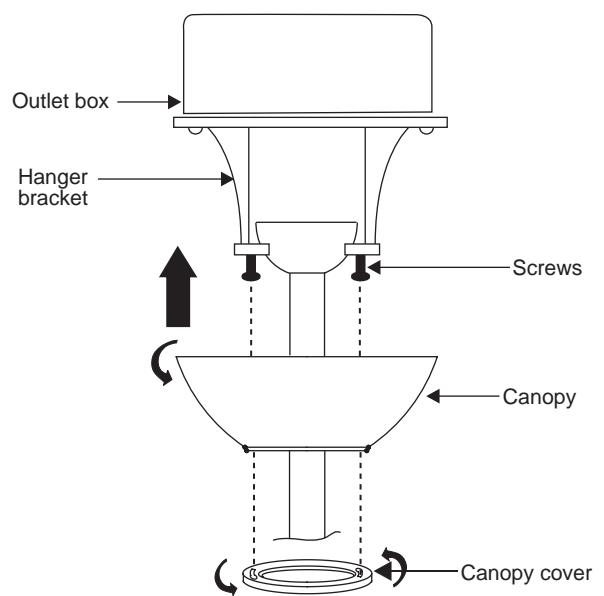

Figure 17
**Step 2.** Slide the canopy up to ceiling and over the two screws on hanger bracket. Rotate canopy clockwise, next, while holding the canopy with one hand, slide the canopy cover over the screws and rotate clockwise until tight. **Note:** adjust the canopy screws as necessary until the canopy and canopy cover are snug. (Fig.17)